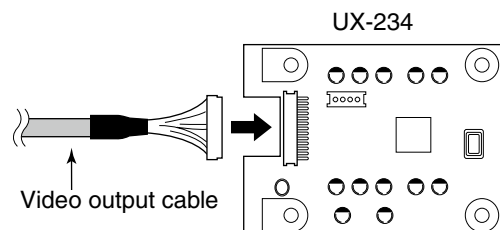

Fig. 3
- ⑤ Connect the video output cable connector to the UX-234's connector. (Fig. 3)